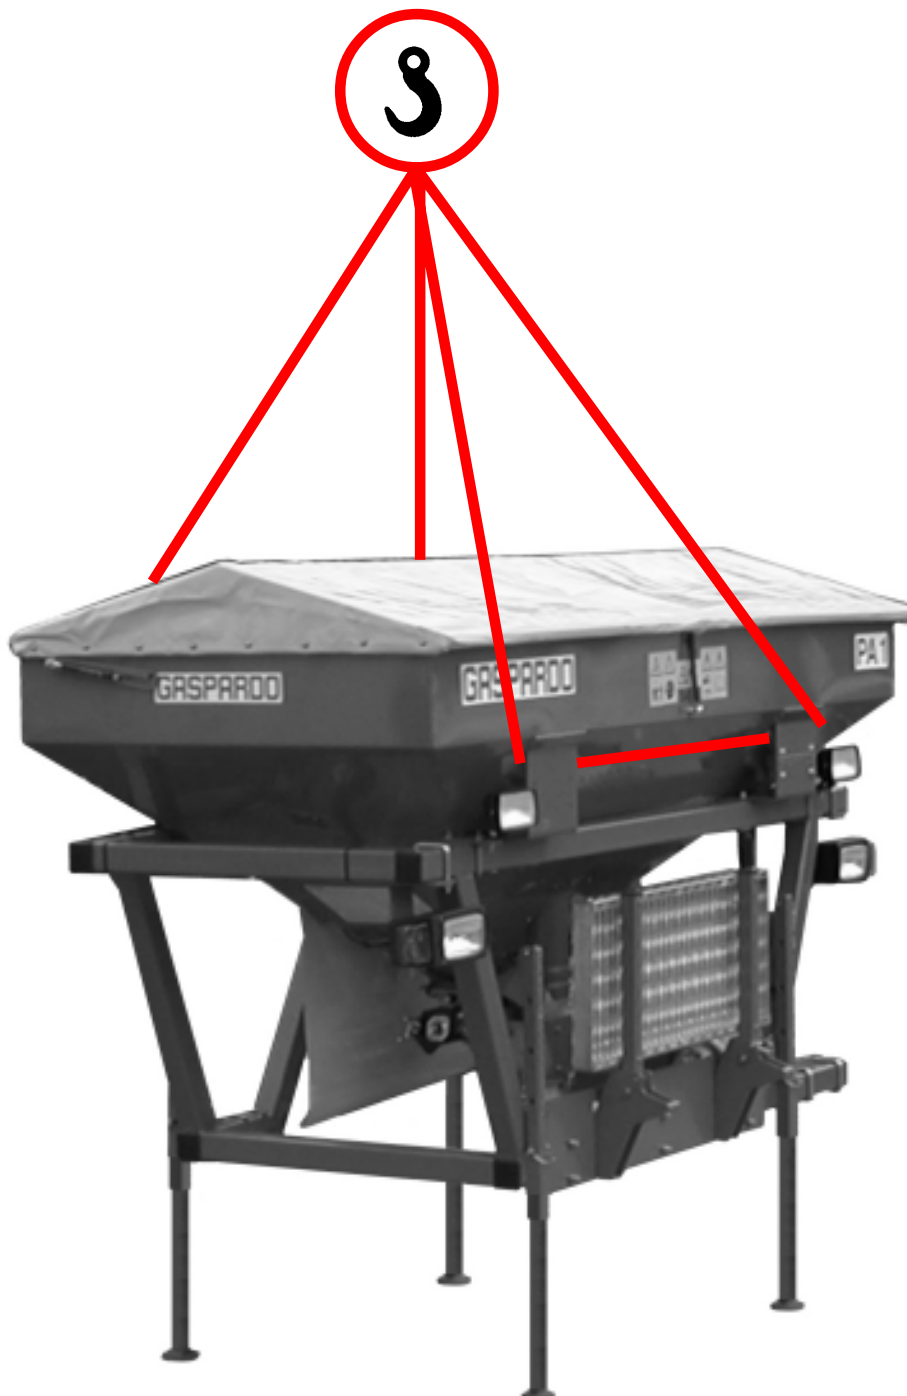
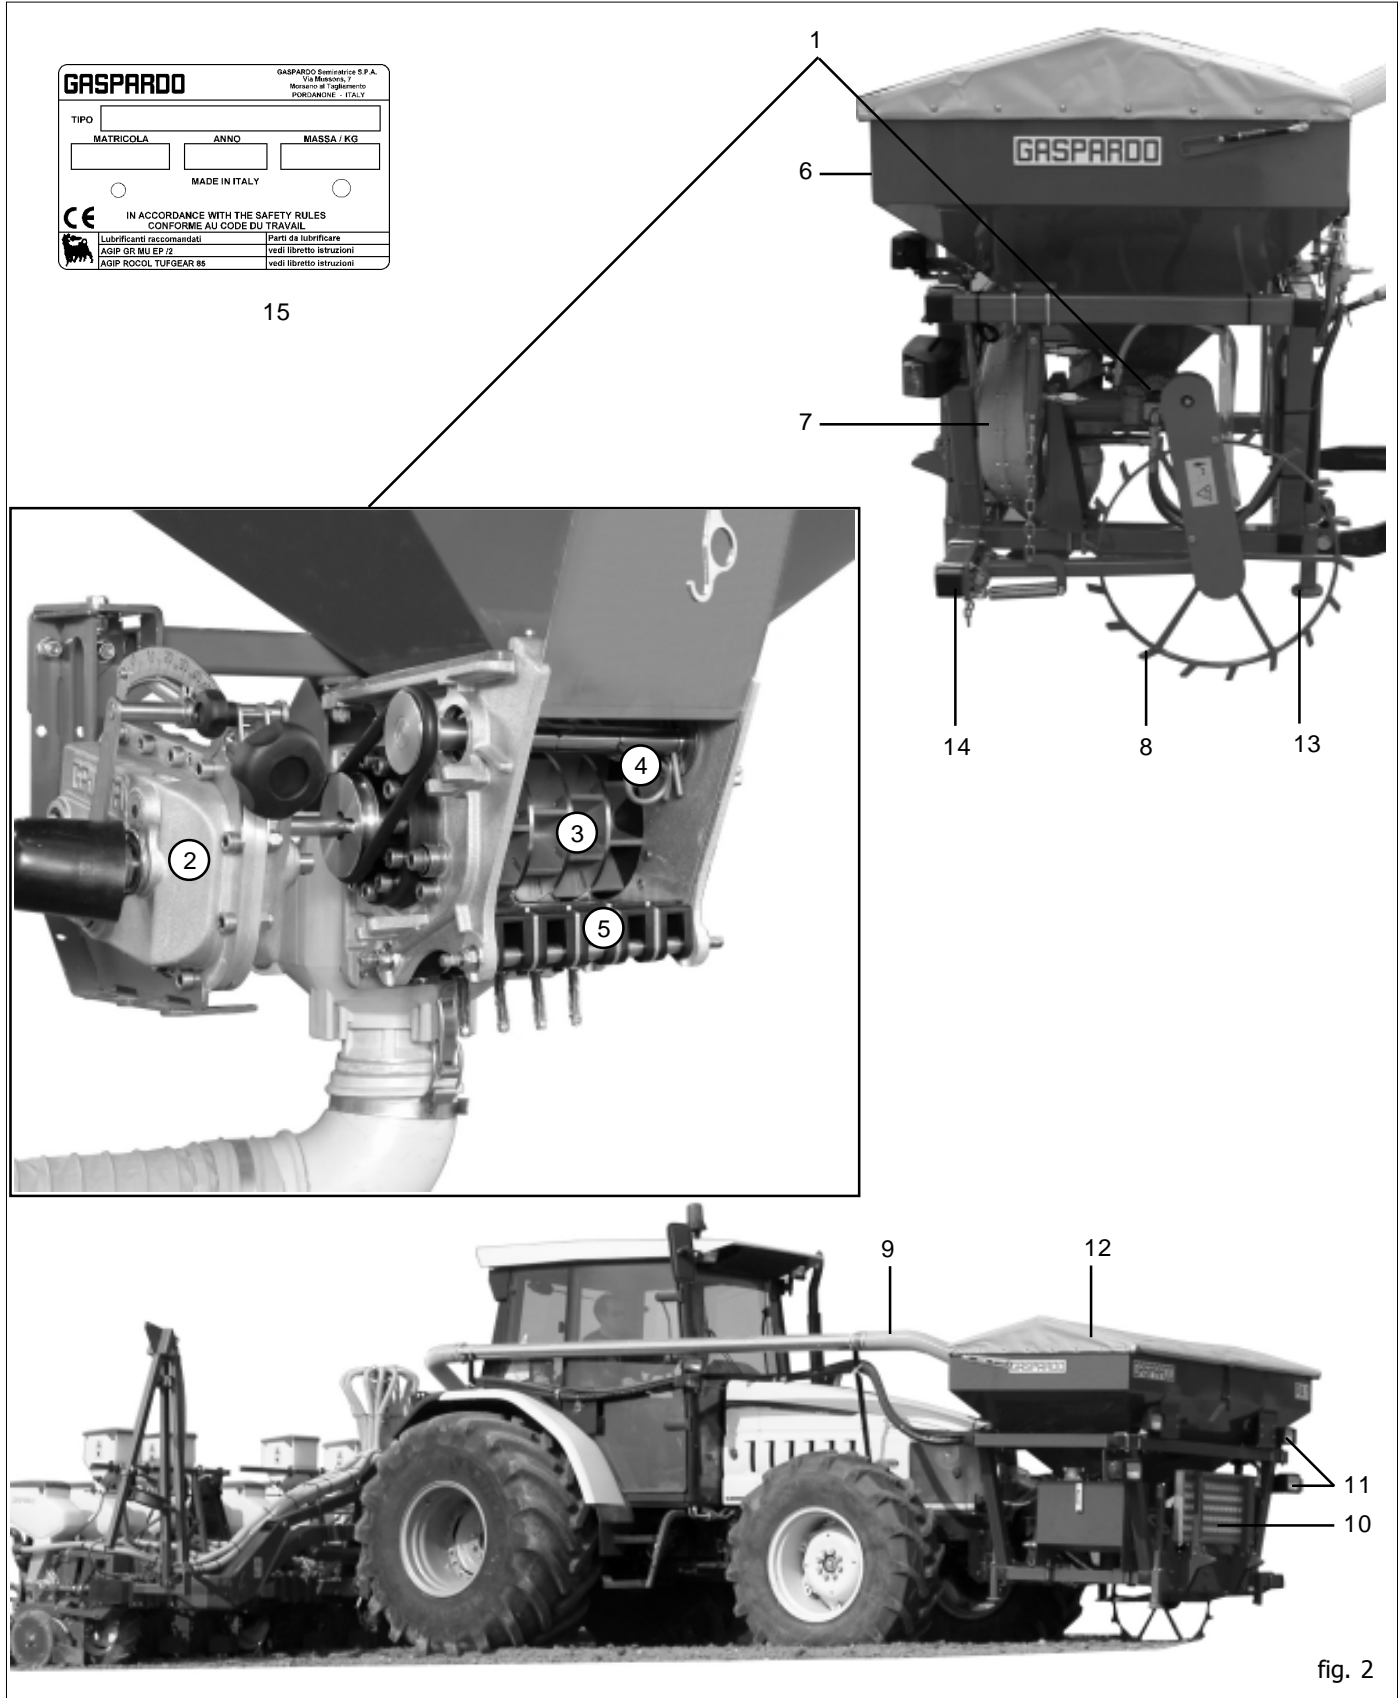

fig. 1
fig. 2
Each single piece of equipment, is equipped with an identification plate (15 Fig. 2), which bears:
When moving the machine, raise it and hook it to the special couplings (fig. 1) using a forklift with a capacity of at least 5 tons. As this operation is dangerous, it must be carried out by trained, responsible personnel. The machine weight is shown on the identification label (15 fig. 2).
1.6 ASSEMBLY DRAWING (fig. 2)